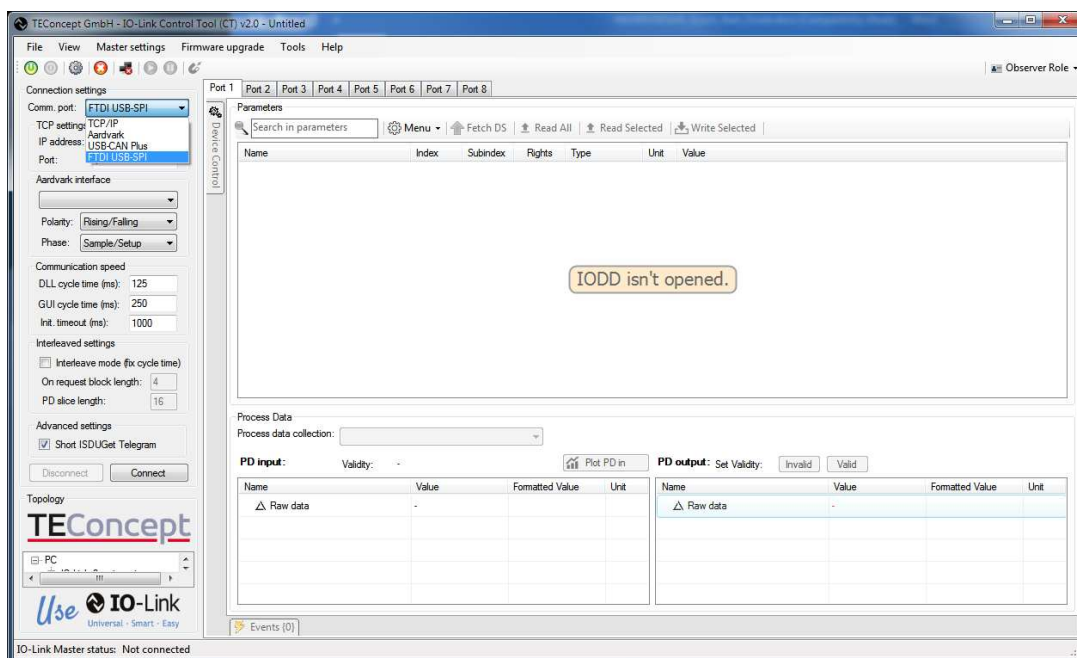

Figure 5. TEConcept IO-Link CT software (tested with version 2.0.6099.29897).
5. Run the **TEConcept CT** software as shown in **Figure 5**. Press the **connection settings** icon, which is a gray gear icon. Select FTDI USB-SPI. Pressing the **Connect** button shows a flashing green COM connection label at the bottom of the GUI once connected.